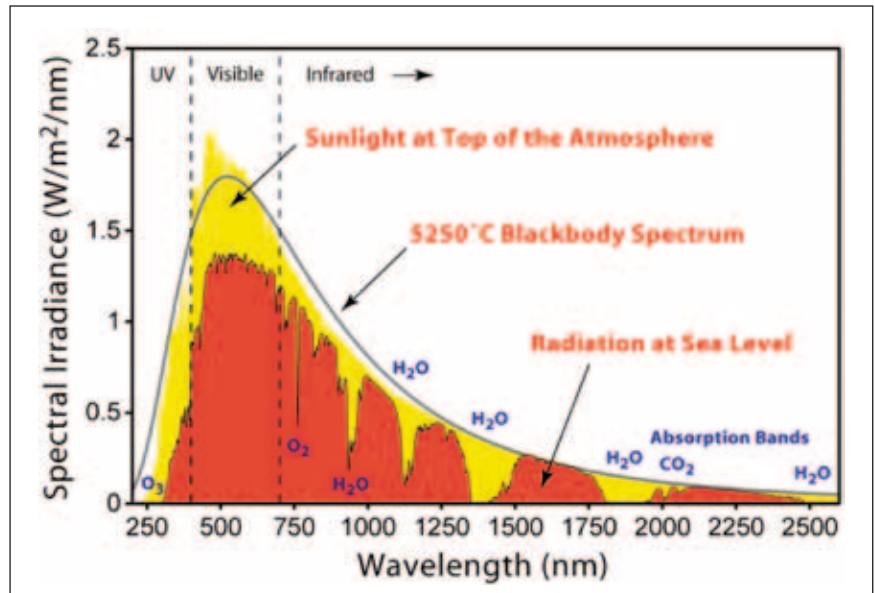

Figure 11. Spectral Radiant Power Density for the Sun. After [9].
The *radiant power* of an LED source, denoted Φ_e , is the total power of emitted electromagnetic radiation, including visible/UV/infrared regions and is measured in watt (W). The radiant power, as may be expected actually has a spectral distribution (as a function of wavelength), and it is easier to work with the *spectral radiant flux*, ϕ_λ defined as the derivative of the radiant power distribution w.r.t. the wavelength. Frequently, the *spectral radiance*- also known as spectral radiant flux *density* i.e. the derivative of the radiant power distribution *per unit area* (W/mm^2) w.r.t. the wavelength (nm) is also used (see Figure 11).